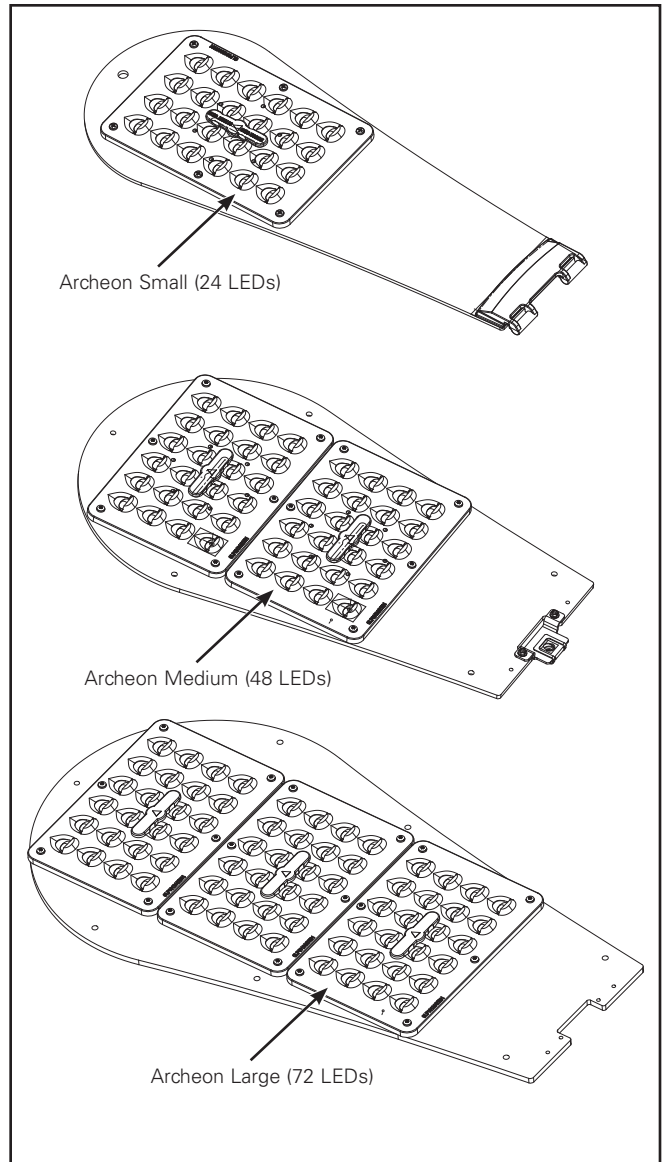

Figure 3.
4. Figure 3 illustrates optical configurations for Archeon Small, Medium and Large.